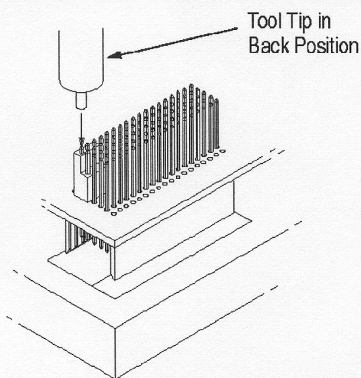

Figure 3
- If the signal pin contact tip is above the board (or spacer) surface, position the tool tip in the BACK position (refer to Figure 3) and place the tool over the contact tail, which will extend into the pin support tube.